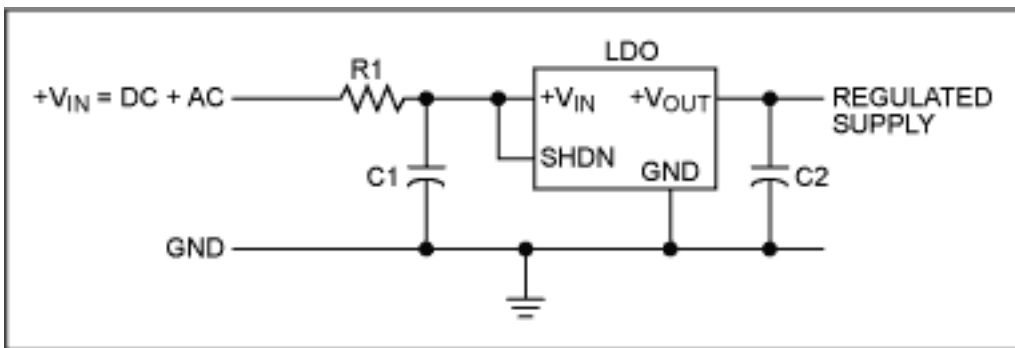
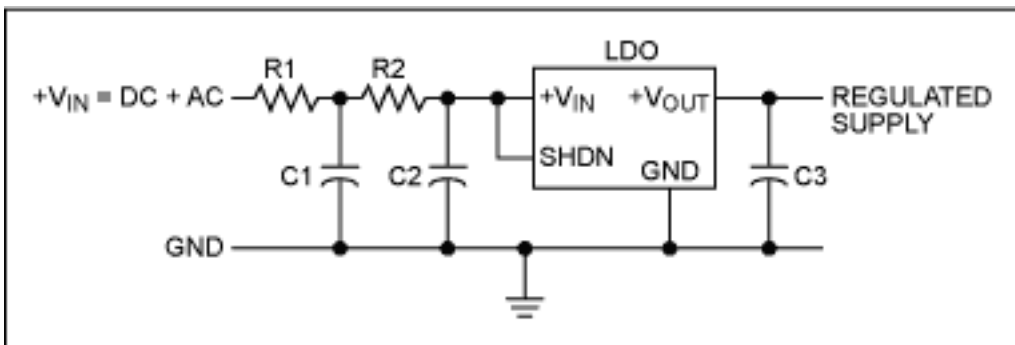

Figure 3a. Single RC ripple filter.
Figure 3b. Second-order cascade RC ripple filter.
**Figure 3a** shows the single order RC network, and **Figure 3b** shows the cascade second-order RC network, both protecting a linear regulator.